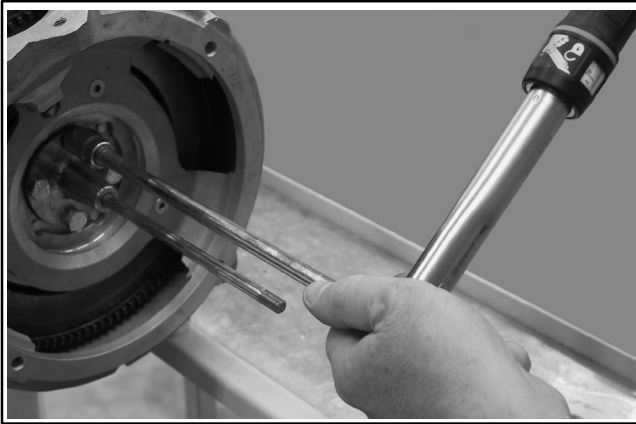

Figure 10-17 Engine/Rotor Hub
1. To reinstall the engine/rotor hub at the flywheel, tighten the four M8 x 35 screws at the specified torque (see section 1.5) with a 13 mm socket wrench. See Figure 10-17.